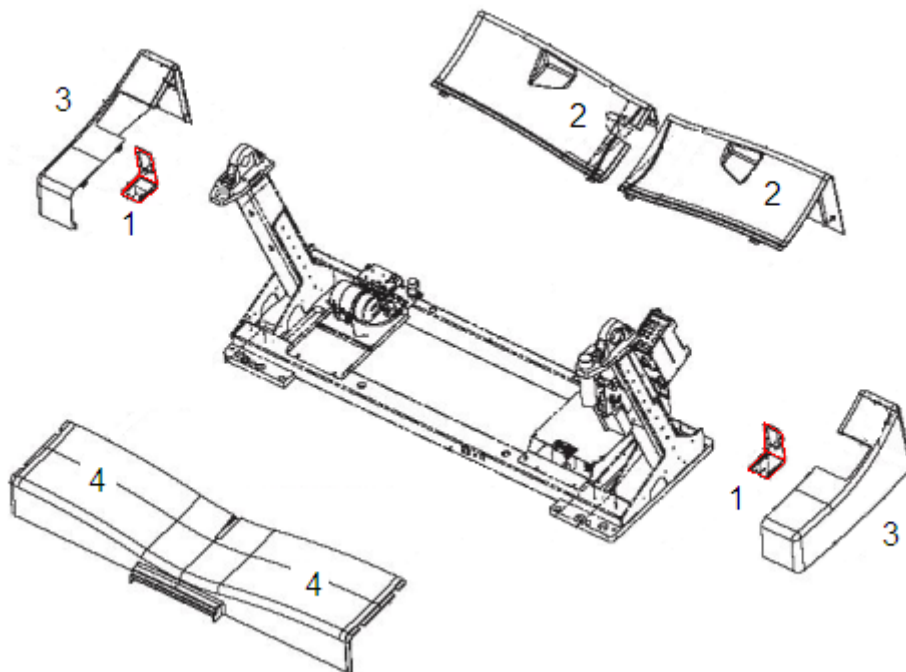

FIGURE 1-3 GANTRY BASE COVERS, EXPLODED VIEW
6. If installed, remove both lower left/right/front rear base covers (2, 3 and 4) respectively, to gain access to the Option mount Bracket 1, as shown in Figure 1-3).